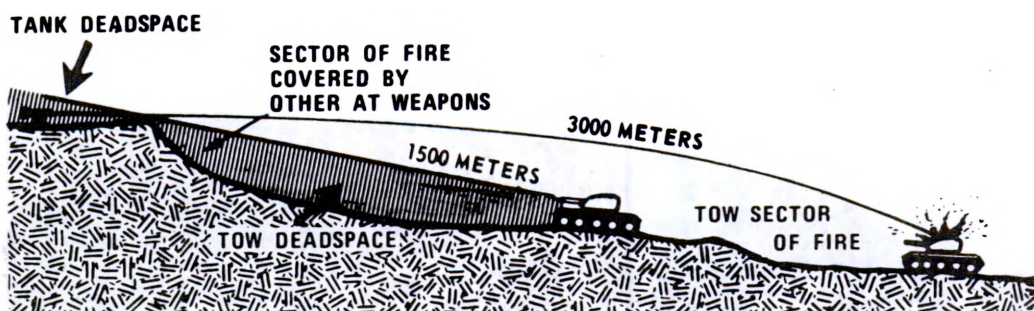

Figure 3. Use of high ground.
(3) When analyzing the terrain in your sector, consider the proper use of high ground. This can gain your crew protection and optimize TOW standoff. In figure 3, the TOW has been positioned far enough back on the high ground so it can cover its sector of fire, yet be protected from tank fire closer than 1,500 meters because of deadspace.